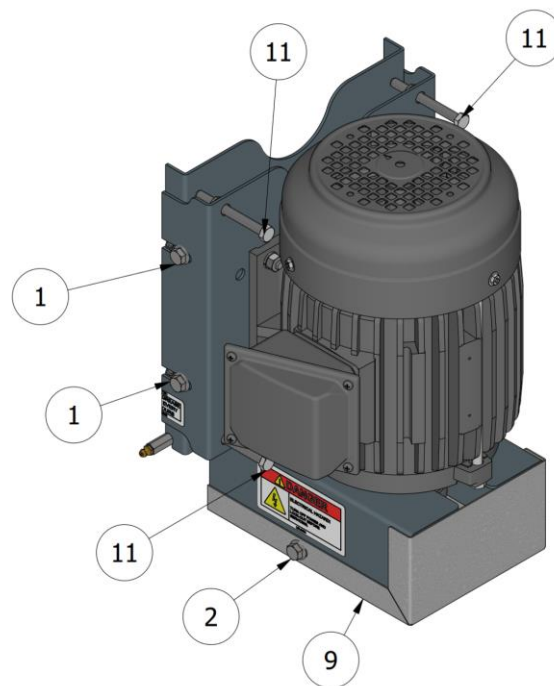

Figure 3 – Isolation View of Fan Motor Area
- Remove outer belt cover bolts and outer belt cover, shown in Figure 3.